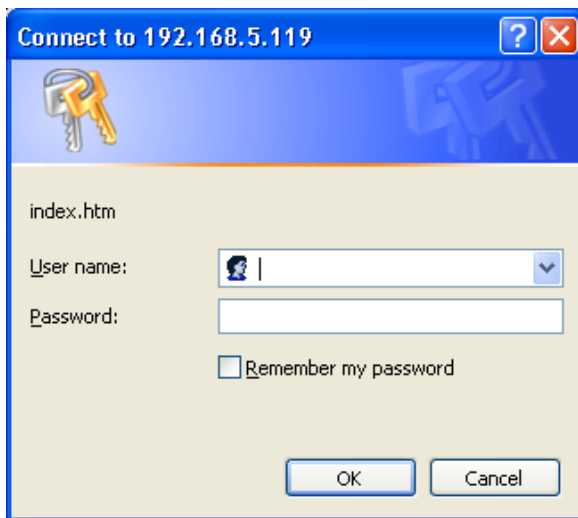

Figure 9. Example of Logon Screen
8. Now open your Internet Explorer program. In the address line enter http://100.100.100.100 and then hit Return. You will then be asked for a username and password. An example of the login screen is shown in Figure 9. If this is your first time logging onto a UPLC™ unit from the